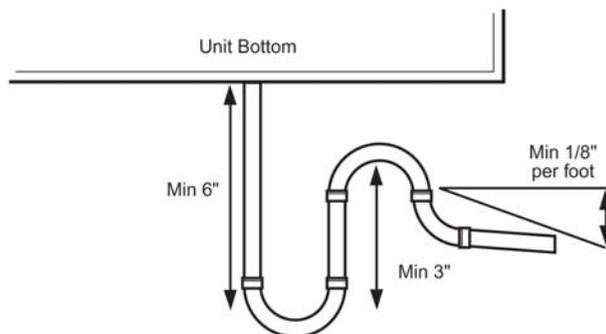

Figure 5 – P Trap
- Per Figure 5 pitch the condensate drain line a minimum of 1/8" per linear foot, and support the pipe with code-approved hangers at least every 5 feet.